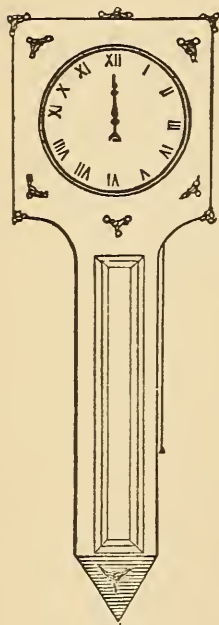
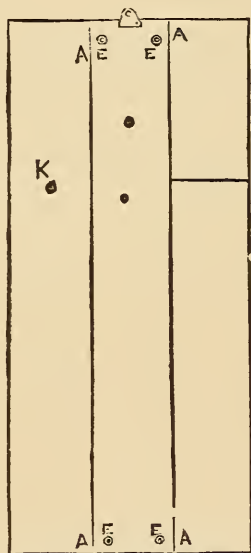
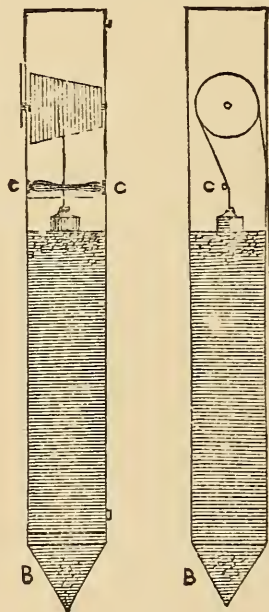

Fig. 16.
Fig. 17.
Fig. 18.
An ingenious and inexpensive timekeeper may be made by any boy for a few pence and a little labour. Buy a sheet of millboard, the thicker the better—size, 27 in. by 22 in.—cut off a strip 10 in. by 27 in., and shape it as shown in Fig. 16, the top part to be 10 in. square, and the lower 17 in. by 4 in. Next mark off the remainder of the millboard into three equal parts of 4 in. each, as shown in Fig. 17, then, with a straightedge and a sharp knife, cut half through the lines AA. This will form the two sides and back of the case. The funnel (B, Fig. 18) should be made of tin, with a square top to fit over the millboard, and have a very small aperture at the point; any tinman will make this for 3*d.* or 4*d.* The spindle (C, Fig. 18) must be $3\frac{3}{4}$ in. long, $3\frac{1}{2}$ in. deep in front, diminishing to 2 in. at back, have a screw-shaped groove from end to end, and work on a small spindle or axle, projecting 1 in. in front, for the hand to be connected to, and $\frac{1}{2}$ an inch at rear. If the young horologist has not a lathe at his disposal, the spindle can be obtained from a turner for a few pence. The weight may be made of a piece of shaped stone, or of an empty stone ink-bottle, from the neck of which the cord passes over the bar (C), round the grooves of the spindle, and out of the hole (K). A small weight, such
reels (E, Fig. 17), such as are used for silk, should be glued on the back, to keep the case from the wall, and a ring fastened to the top to hang it by.
It is now ready for the motive power, which is obtained by the falling of sand, as in the hour-glass. The sand must be first well washed, dried, and sifted, to remove all stones, then poured through the case top to within two inches of the cross-bar (C, Fig. 18), the weight